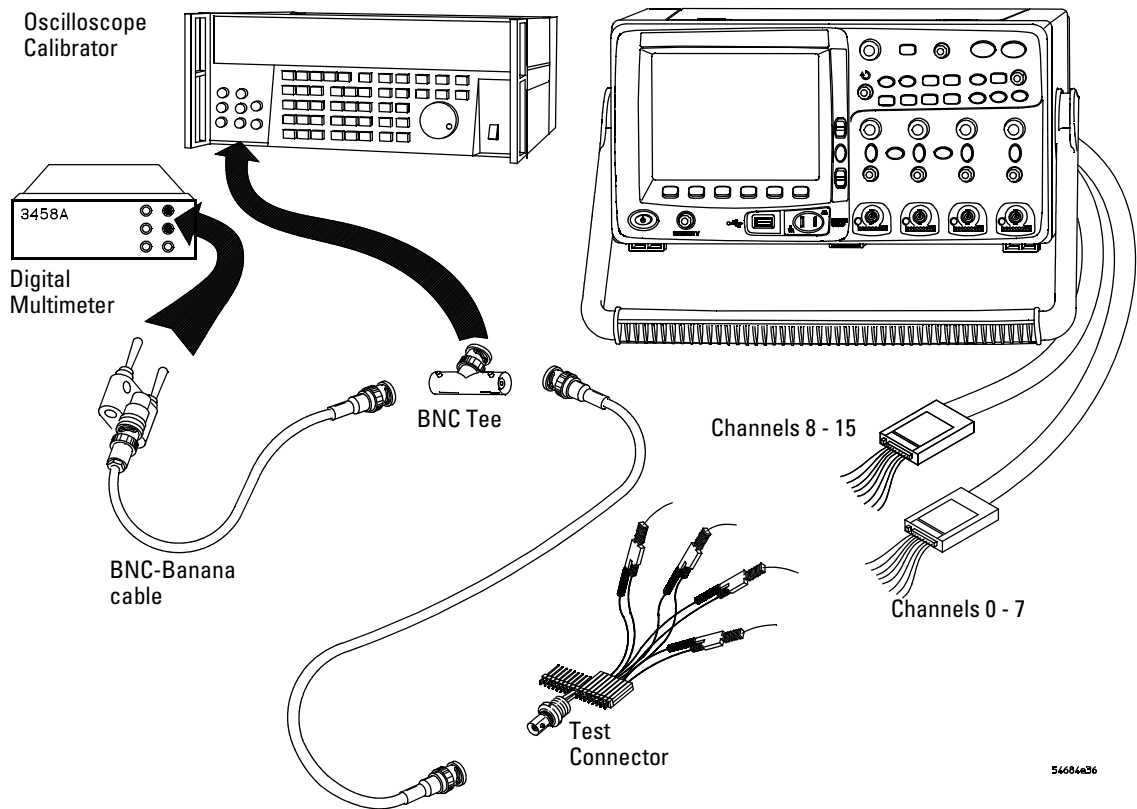

Figure 2 Setting Up Equipment and Test Connector for the Threshold Test
- 3** Use the 8-by-2 test connector and the BNC cable assembly to connect digital channels D0-D7 to one side of the BNC Tee. Then connect the D0-D7 ground lead to the ground side of the 8-by-2 connector. See Figure 2.
- 5 Connect the BNC Tee to the Channel 1 output of the calibrator as shown in Figure 2.